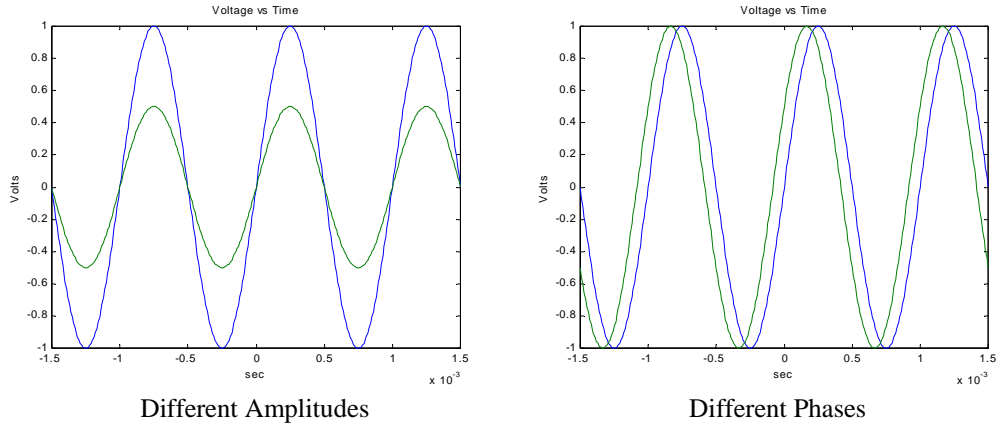

Figure D-3
*Two Channel Scopes:* A dual-beam oscilloscope provides for amplification and display of two signals at the same time, thereby permitting direct comparison of the signals on the CRT screen. It is a very good idea to always use both inputs, so that you can display both the signal into and out of the device you are studying. It is common to put the input signal (coming directly from the source device) on one channel and the output signal (a signal you want to observe in your circuit) on the other channel. This way you can observe what your circuit does to the input by comparing the input signal to the signal generated by the circuit. When we compare two signals we generally look at two things. The first is the change in amplitude between the input and the output. You observed this when you built the voltage divider in part B. The output can also be shifted in phase relative to the input. This means that two sinusoids are not synchronized along the time axis. These two conditions are illustrated in figure D-3.
- You should see two nearly identical sine waves once you hook up both function generators. Remember that the sine wave is defined by three parameters – amplitude, frequency and phase. Check to see that the voltage scale for both channels is the same. (Use the Volts/Div knob to adjust this if needed.) If the amplitudes are not the same, the sine waves will not be the same amplitude. If the phases are not the same, the sine waves will not line up horizontally. If the frequencies are not the same, the wave the oscilloscope is triggered on will be stationary, while the other wave will move (slowly we hope) to the left or right. Figure D-3 shows signals that vary in amplitude and frequency.